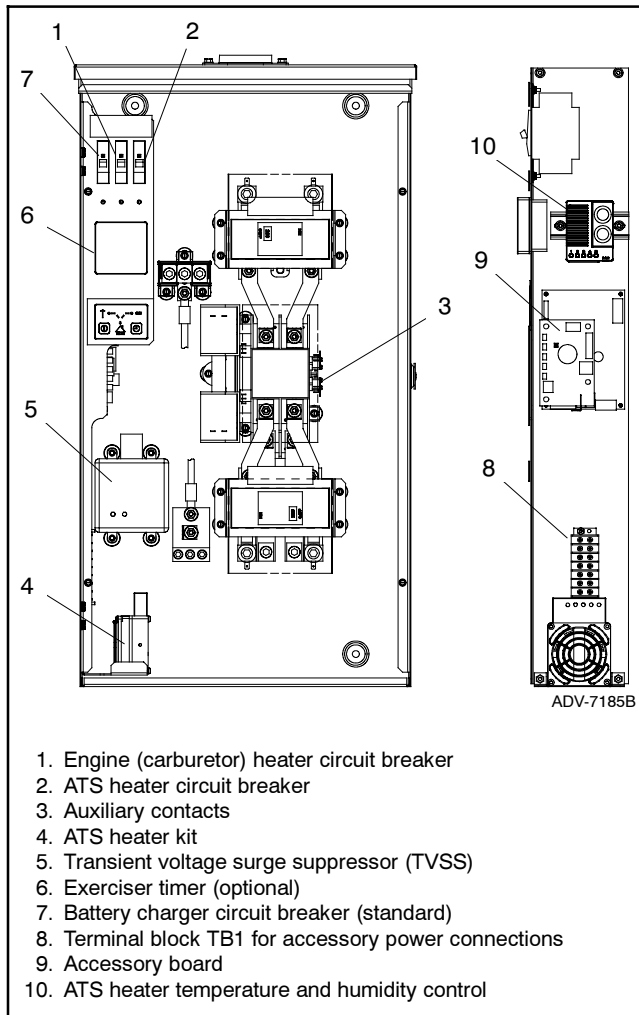
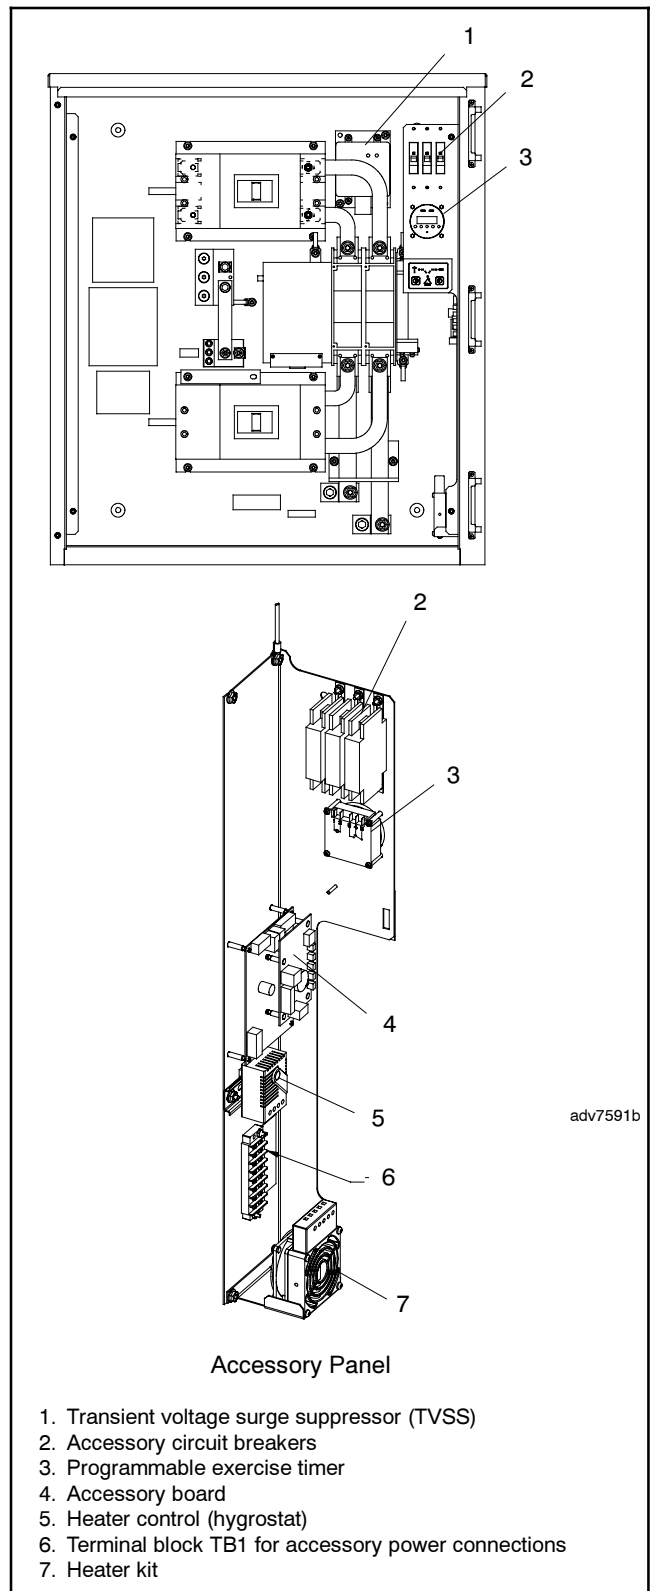

Figure 4-9 200 Amp SE Model Accessories
Figure 4-10 400 Amp SE Model Accessories
The service entrance (SE) model transfer switch offers all the standard accessories discussed in previous sections plus the additional accessories discussed here. See Figure 4-9 or Figure 4-10 for model SE accessory locations.
The space heater control is located on the left side of the enclosure. See Figure 4-9 or Figure 4-10 for the location of the space heater and controls.